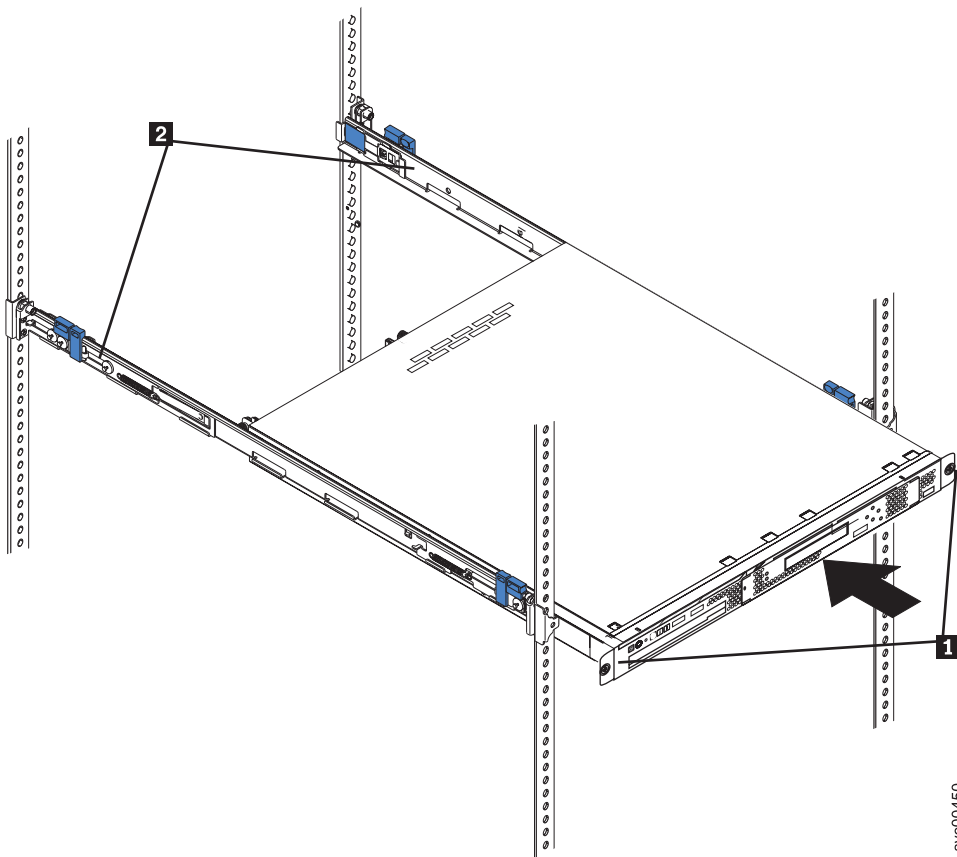

Figure 42. The captive thumbscrews that secure the node and the shipping brackets
1. Align the node on the slide rails and push the node fully into the rack. Secure the node to the front mounting flanges with the captive thumbscrews ( **1** in Figure 42).